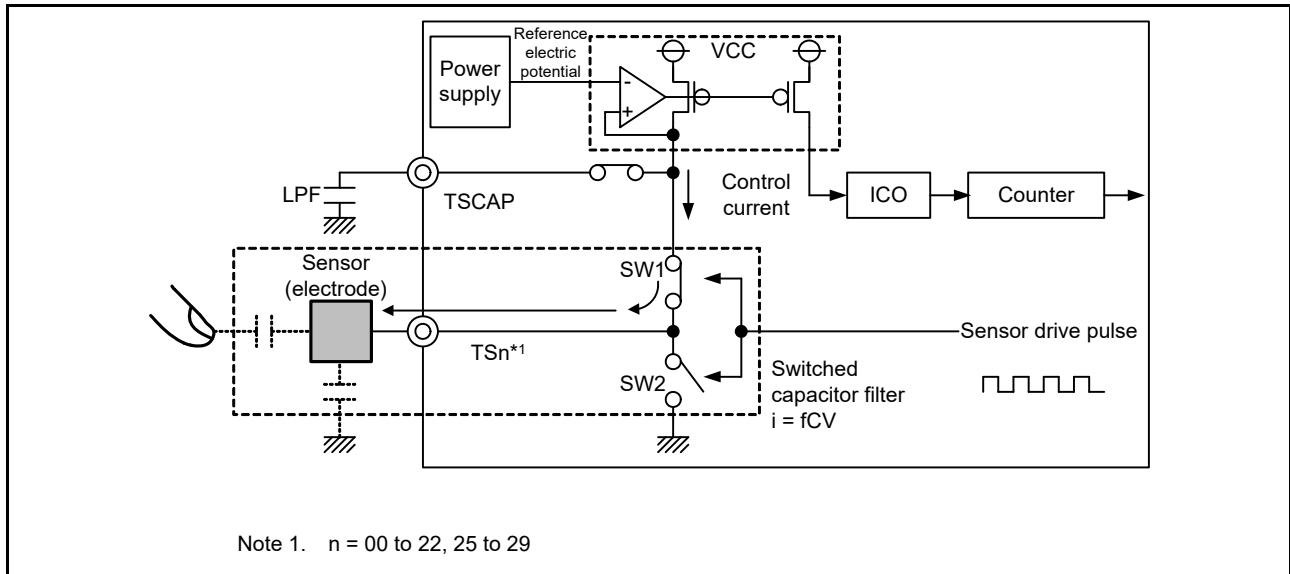

Figure 39.5 Charging operation
Figure 39.5 to Figure 39.7 explain the electrostatic capacitance measurement operation principles of the CTSU current frequency conversion. The operation is as follows:
1. The electrostatic capacitance of the electrode is charged by turning SW1 on and SW2 off. See Figure 39.5.